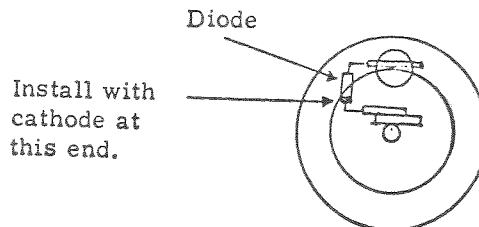

Figure 4-12. Diode Installation in RF Detector
- d. Install the new diode with its cathode positioned as shown in Figure 4-12.